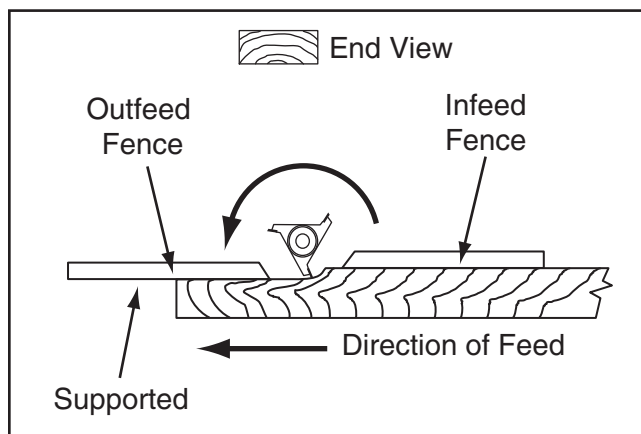

Figure 43. Support workpiece as it is fed.
6. When the cutter comes to a complete stop, adjust the outfeed fence to support the new profiled edge, as shown in **Figure 43**.